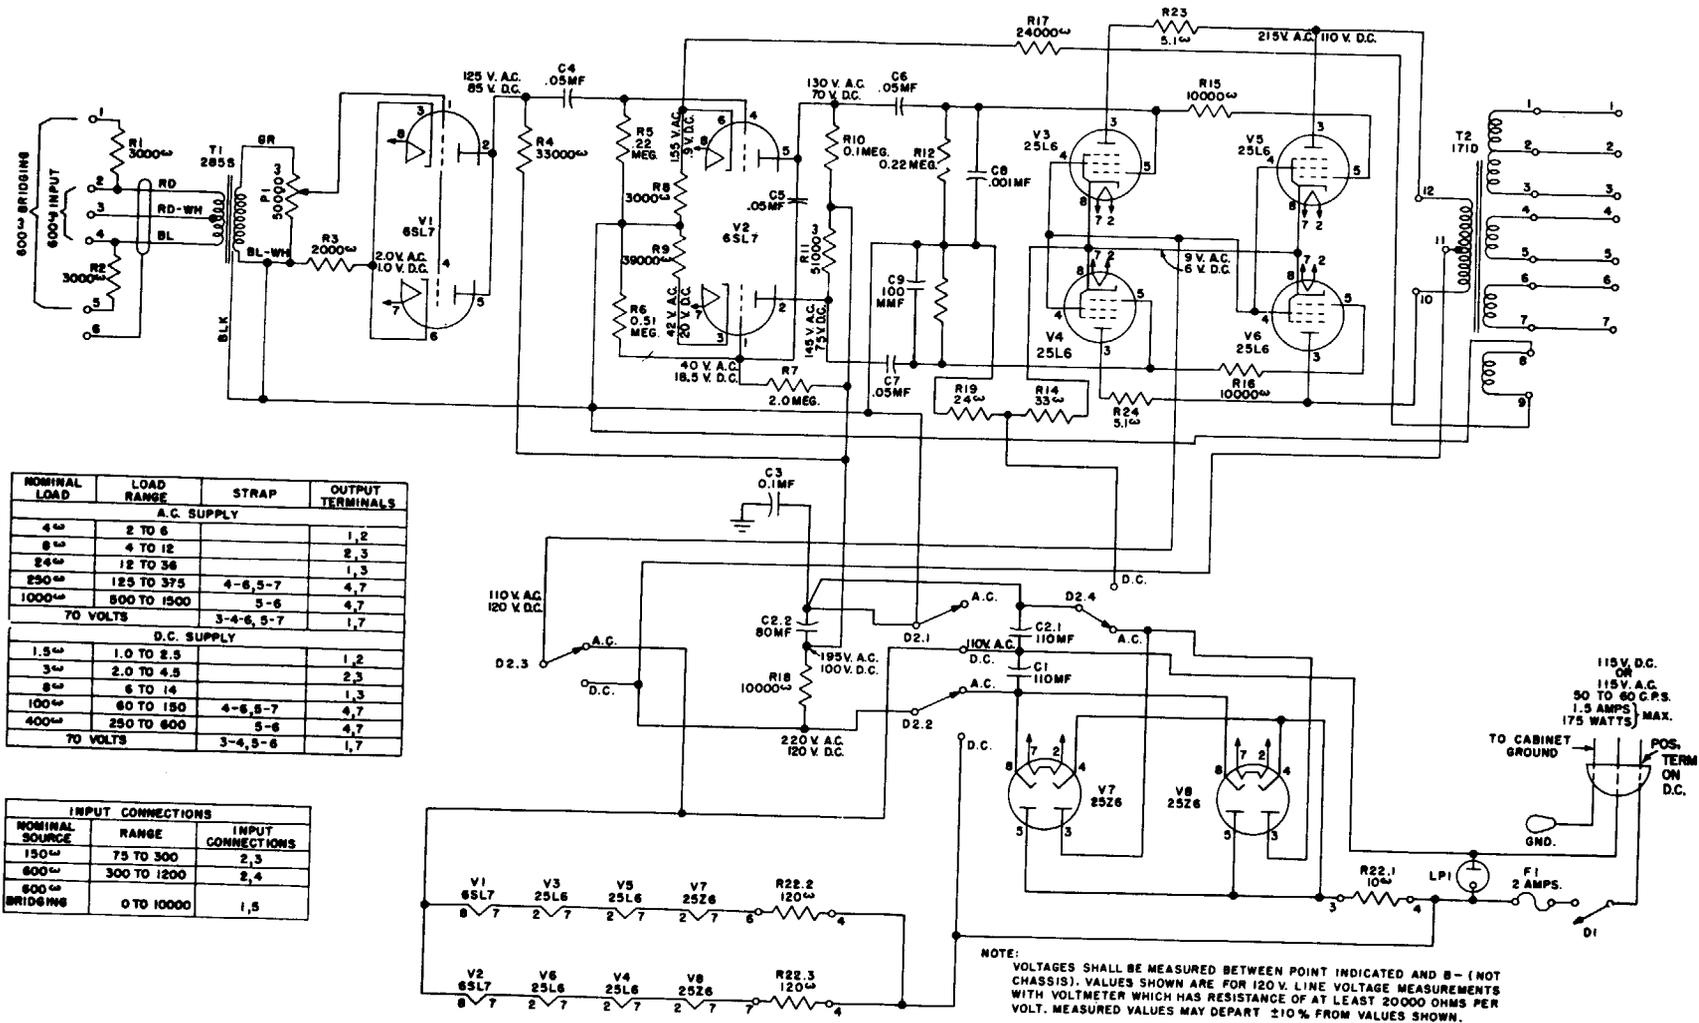

Fig. 5 — 140A Amplifier Schematic
**2.16** When the amplifier is in trouble and the cause is not due to burned out or otherwise defective tubes, the amplifier should be checked (with the power cord plug removed from the supply receptacle) for loose connections or broken wires. Fig. 4 shows a wiring diagram of the 140A Amplifier, and Fig. 5 shows a schematic diagram of the 140A Amplifier.
**2.17** If the tests mentioned above fail to reveal the trouble, it will be necessary to check the operating voltages in the amplifier. Fig. 5 shows these voltages in the amplifier. The values
**2.18** The values of voltages on the various elements of the electron tubes may be measured at the tube sockets on the underside of the chassis. The terminal on the socket to which each element of the electron tube is connected is indicated by terminal number on the schematic drawing in Fig. 5. The standard numbering sequence for tube sockets is shown in the wiring diagram in Fig. 4.